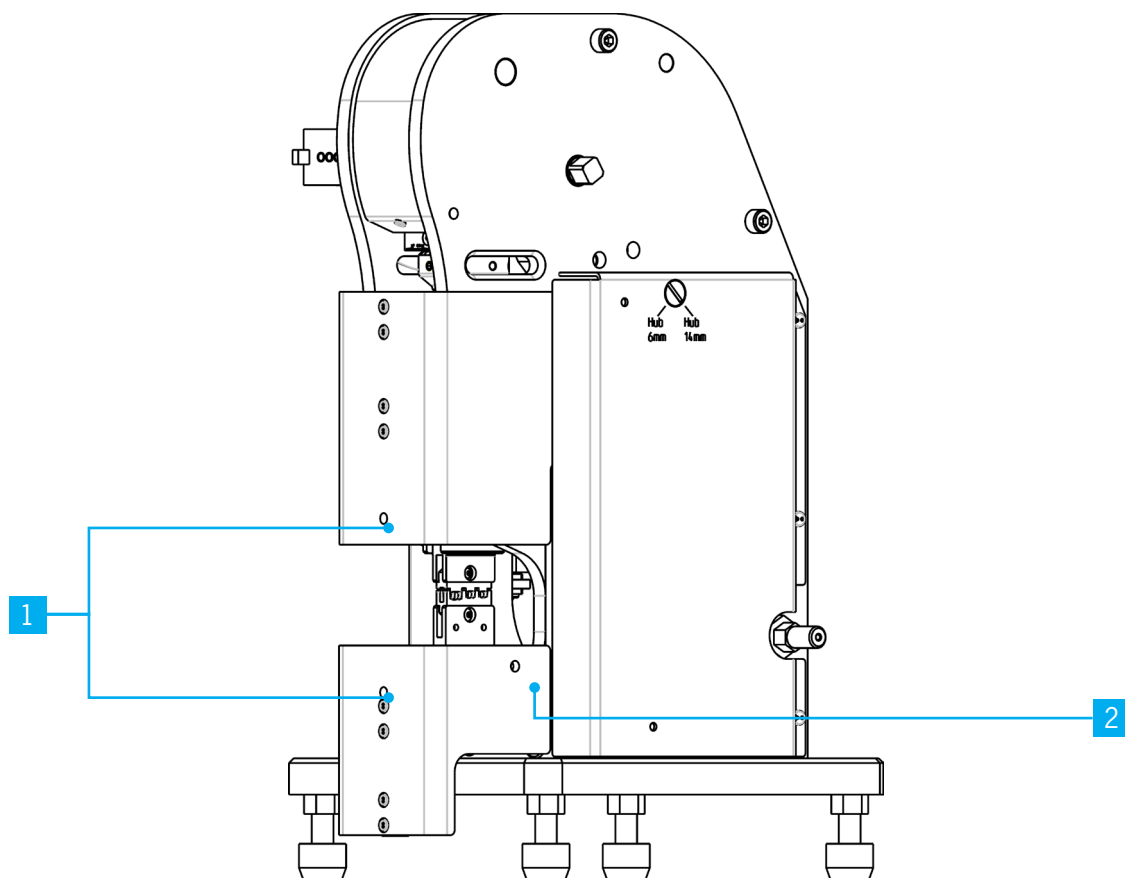

Fig. 5
- Loosen the adapter for the upper and lower intake with one complete turn by placing an Allen wrench through the bore hole in the lower safety cover Fig.5/1
- Loosen the upper adapter intake through a bore hole with an Allen wrench SW 2,5 mm Fig.5/1
- Loosen the lower adapter through the bore hole in the lower safety cover with an Allen wrench SW 2,5 mm on the right side Fig.5/2